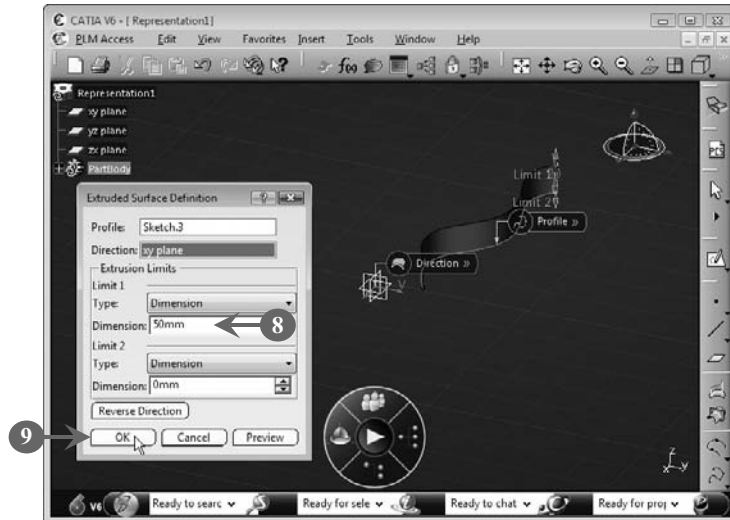

FIGURE 5.29
to the **Profile** and **Direction** boxes, respectively, in the **Extruded Surface Definition** dialog box (**Figure 5.29**).
8. Enter a value representing the dimension for the surface to be created in the **Dimension** box under the **Limit 1** group in the **Extrusion Limits** group (**Figure 5.29**). In our case, we have entered **50 mm**.
9. Click the **OK** button to close the **Extruded Surface Definition** dialog box, as shown in **Figure 5.29**: